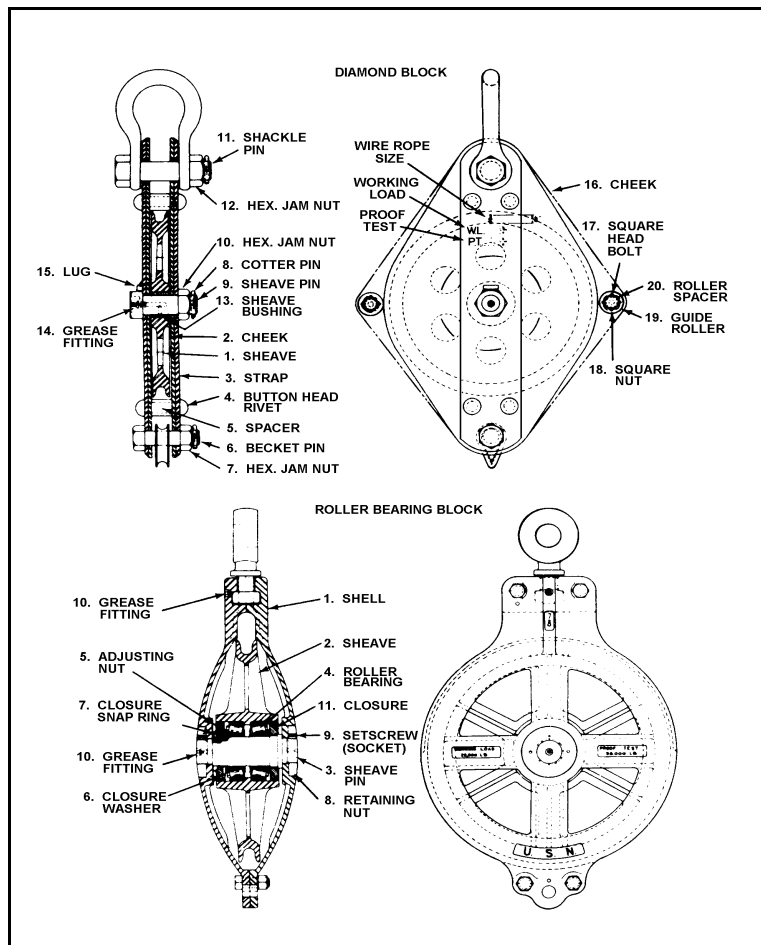

Figure 20-2. Common Cargo Blocks
20-4. The three types of cargo blocks most frequently seen on ships are the diamond, oval, and roller bearing. Figure 20-2 shows the diamond block and roller bearing block. Each of these blocks are described below.
- **Diamond block.** A single-sheave diamond block is shown in Figure 20-2, but there may be many more, depending on the use of the block. Sheaves of this type of block are usually bushed with a high-grade bronze alloy, and the pins are equipped with grease fittings. Sheave bushings should be lubricated with hard graphite grease (such as Federal Specification VV-G-671, grade 0).